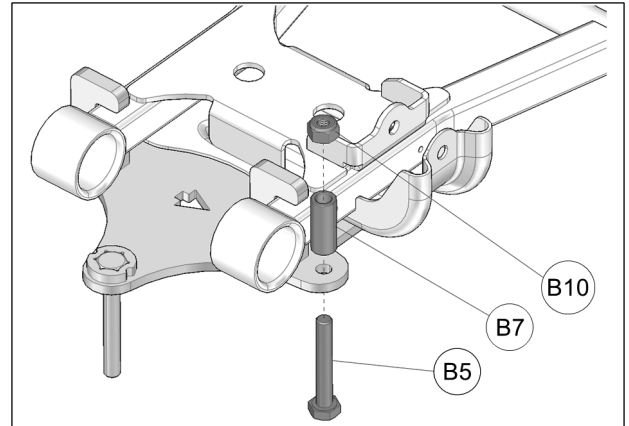

Fig. 7
6. Insert the M10x65mm bolt (**B5**) in the bracket hole aligned with C-shaped hooks, install spacer bushing (**B7**) and nut (**B10**) on bolt. Tighten assembly to 50 N•m [37lb•ft] of torque. See Fig. 7